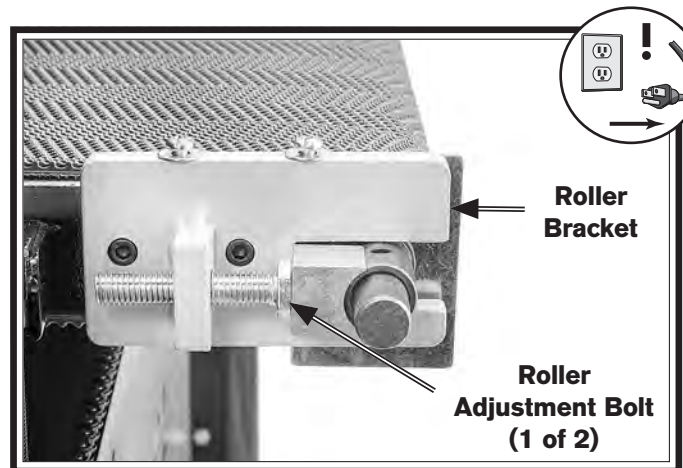

Figure 49. Location of conveyor roller adjustment bolts.
- If belt slips on rollers, rotate both roller adjustment bolts evenly (see **Figure 49**) counterclockwise to increase belt tension.